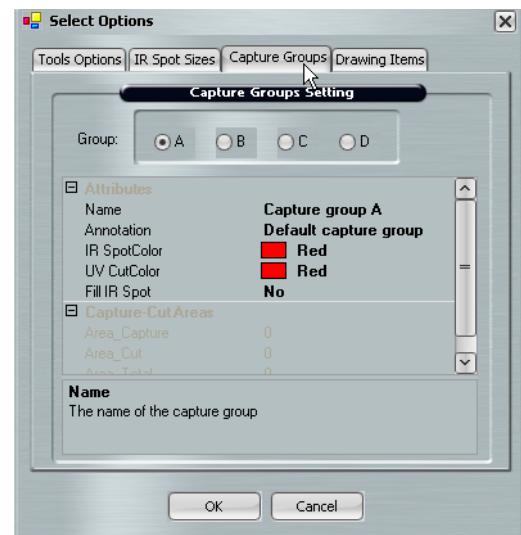

Figure 49 Capture Groups tab
2. Click the **Capture Groups** tab (see Figure 49).